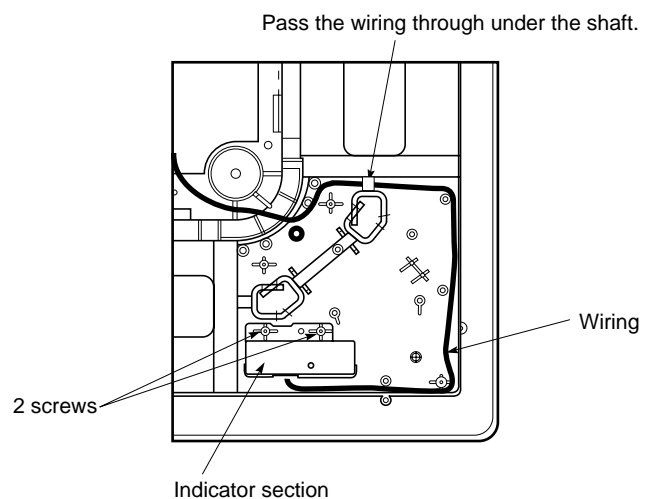

Fig. 7-2
- (1) Remove the ceiling panel.
- (2) Remove the corner cover behind the mark section. (3 screws)
- (3) Remove the mark section inside the ceiling panel. (2 screws)
- (4) Install the indicator section in the location where the mark section was attached. (2 screws)
- (5) Form the wire to match the panel ribs as in the Fig. 7-2.
- (6) Install the corner cover. (Restrain the wire with the corner cover.)